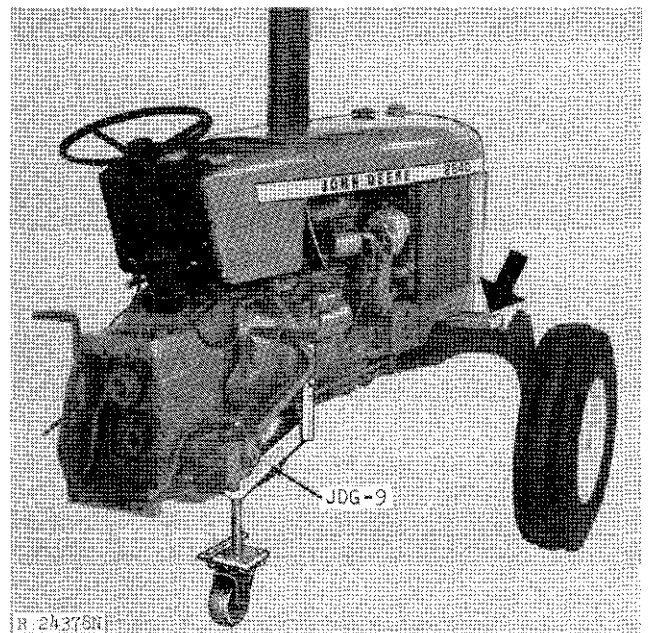

Fig. 11-Clutch Housing Separated from Transmission
**CAUTION:** Install a wooden block between front axle and front support on both sides of tractor to prevent assembly from tipping (Arrow, Fig. 11).
Remove the clutch housing-to-transmission case cap screws, and separate units (Fig. 11). Install caplugs.